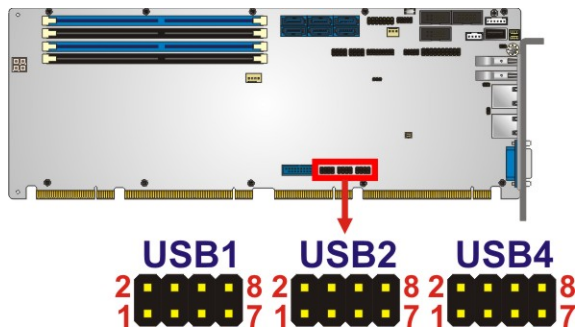

Figure 3-24: USB 2.0 Connector Locations
- CN Location:** See **Figure 3-24**